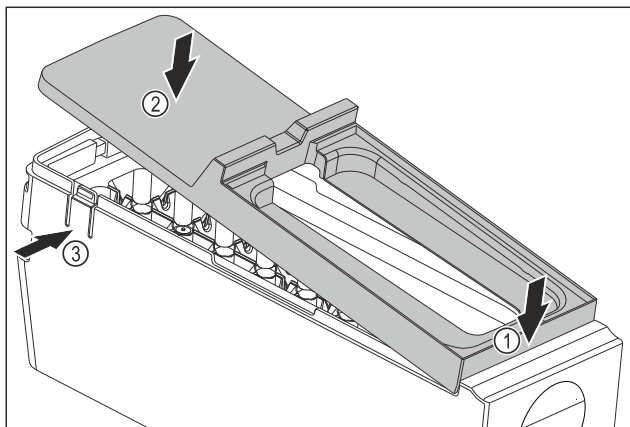

Fig. 127
- ▶ Installing the EasyTwist-Ice body cover: Place the cover on the front. Fig. 127 (1)
- ▶ Lower the cover at the rear. Fig. 127 (2)
- ▶ The cover locks into both tabs Fig. 127 (3) audibly.